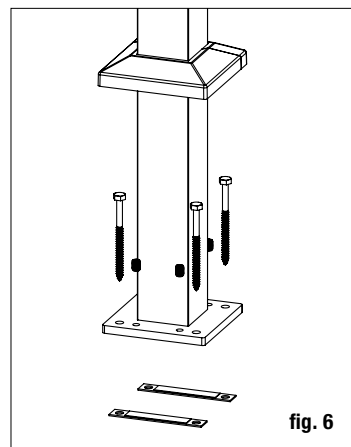

fig. 6
Step 4 Reposition the post assembly with the leveling plate inserted between the deck and the post base, and aligned with the predrilled holes. Insert the post fasteners (**NOT INCLUDED**), and partially tighten. Using a level, adjust the leveling set screws with a 3/16" allen wrench until the post is plumb. Fully tighten the post fasteners to secure the base to the deck structure. *Note: Recommended 5/16" x 4" or longer lag screws.* (fig. 6)